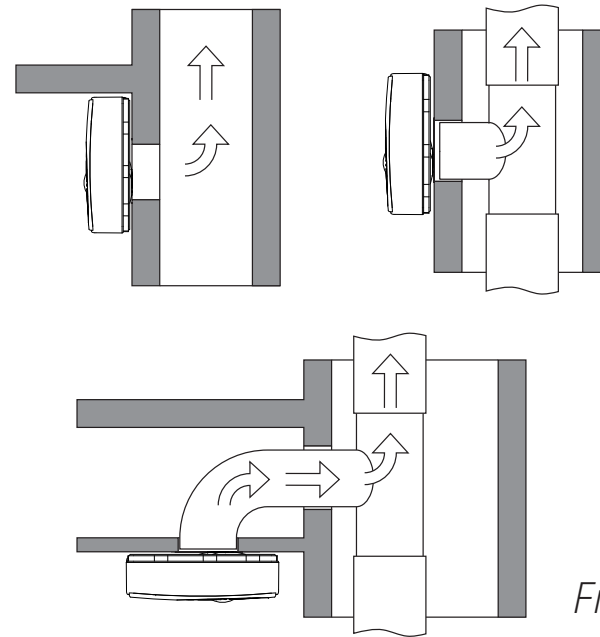
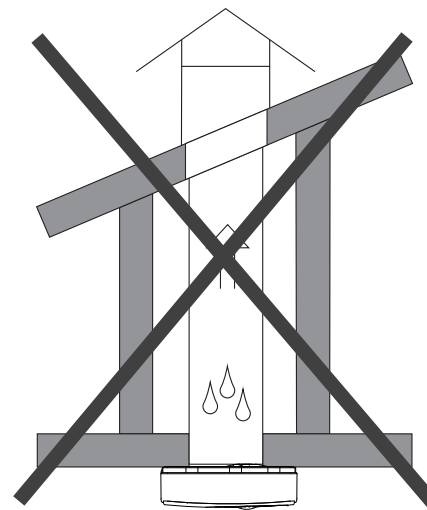

Fig. 3
Fig. 4
- If the vent pipe is vertical, there must be a branch to the fan, Fig. 3. A direct vertical vent pipe is not permissible, Fig. 4.